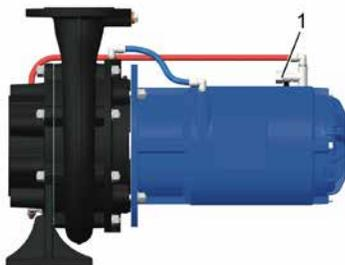

Fig. 119 Closing the ball valve
4. Close the ball valve (Fig. 119/1).